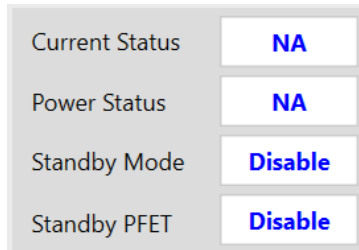

Figure 32: Status Monitor
34. Figure 32 shows how to configure the status monitor.